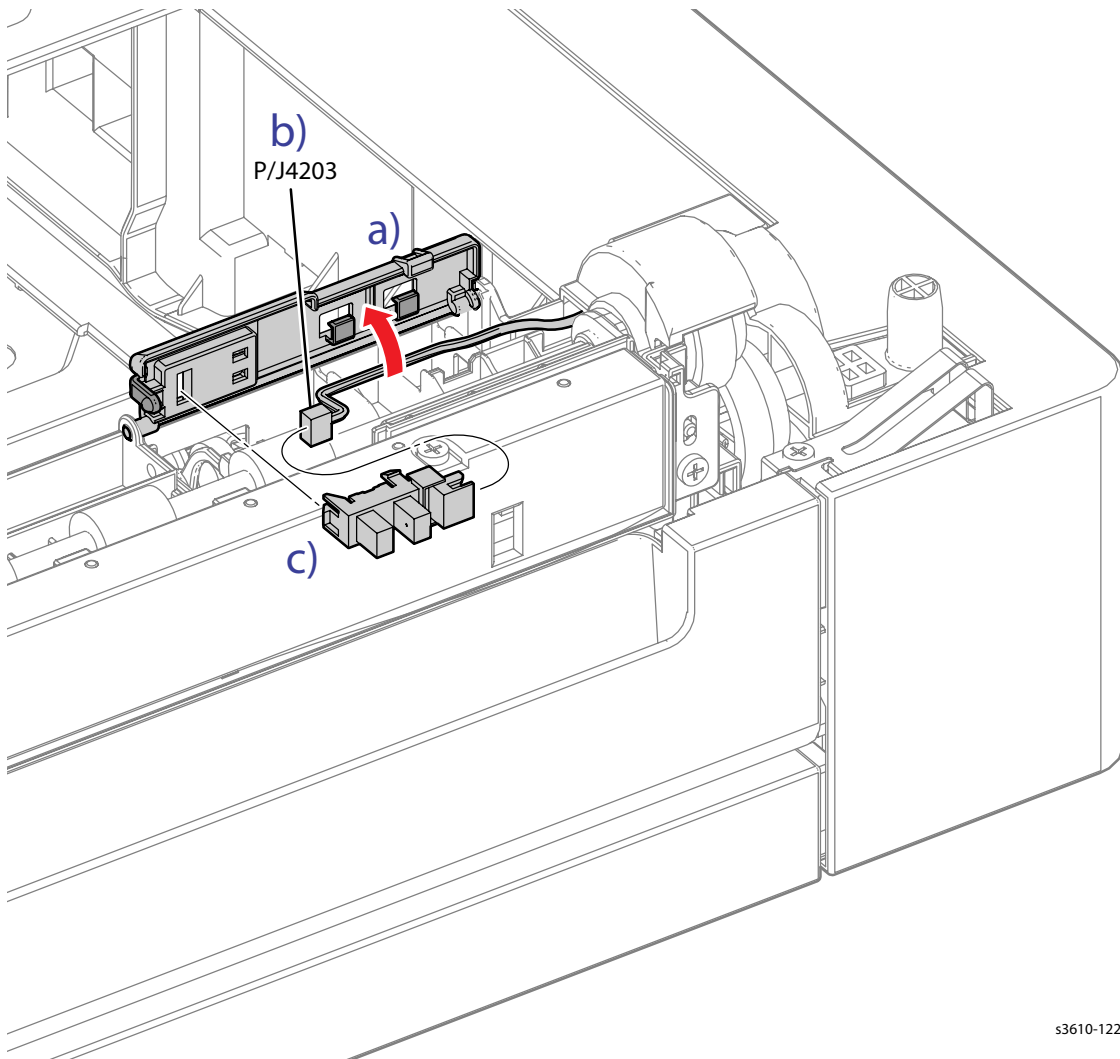

Figure 1
3. Remove the No Paper Sensor, (Figure 1)